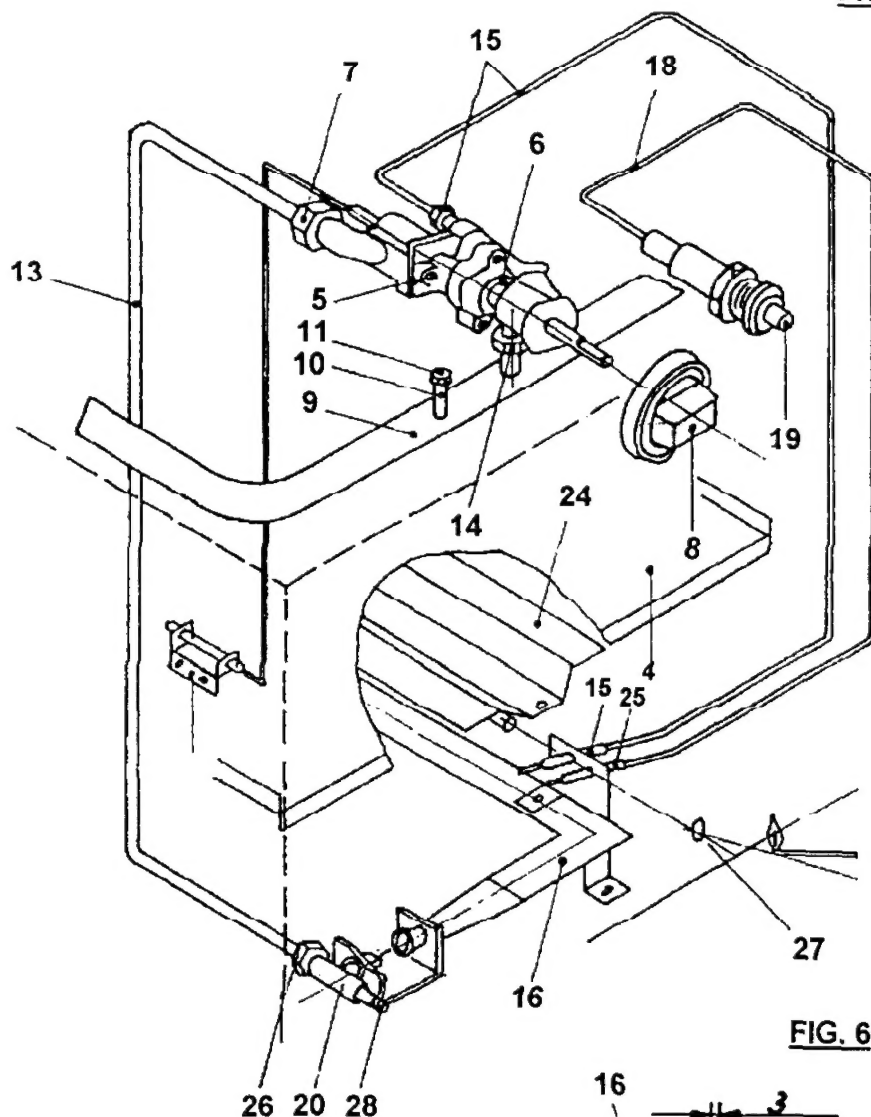

FIG. 6
Thermocouple (15): remove the oven base plate (4) and the burner flame shield (24). Undue the thermocouple from the support bracket at the thermostat and replace the thermocouple. Ensure that it is repositioned as indicated in Fig. 6.